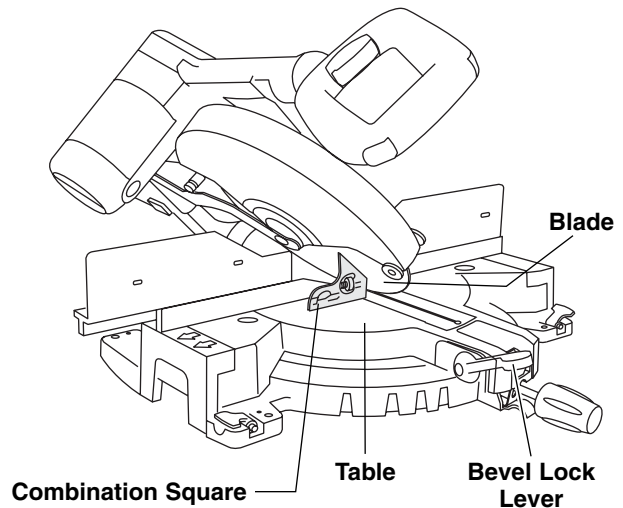

Figure 1. Left 45° Bevel Stop
6. Use the head (remove ruler) of a combination square to check blade at the 45° stop. Place the combination square head on the table and press its 45° surface against the blade. If the blade does not contact the full length of the square, (figure 1), follow the calibrating procedure.
4. Remove the ruler from the combination square and position with 45° surface against blade. (Figure 1)